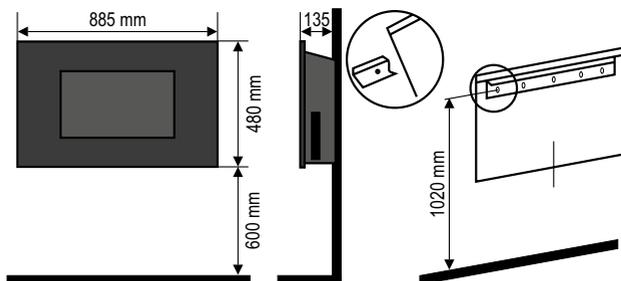

Figure 3 • 3.ábra • 3. obrázok • fig. 3. • 3. skica • 3. obrázek • Slika 3.
7. According to Figure 3, fasten the wall mount (9) horizontally to the wall at the desired location using the included screws and dowels. The recommended 600 mm installation height is not mandatory, however, the minimum height of 300 mm above the floor must be observed. The wall mount should be flush with the wall. Please take into account the wall's bearing capacity.
8. Using the 2 included small screws attach the lift-off prevention plate (10) onto the bottom of the heater so that the plate is flush with the wall surface.